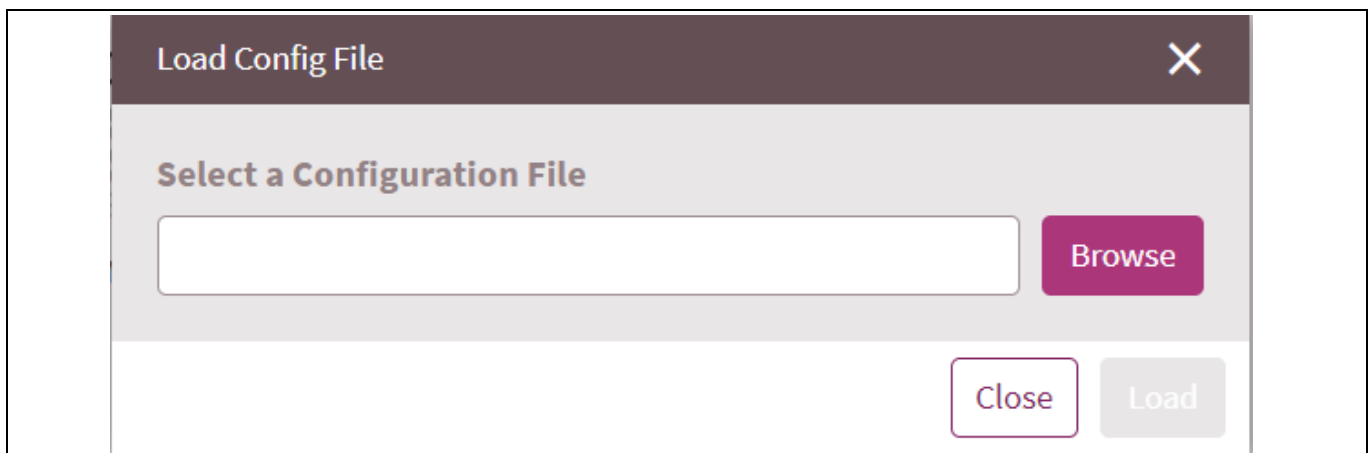

Figure 35 Browse to select the necessary configuration file
- Click **Browse** and select the .txt file that needs to be loaded onto the device, as shown in Figure 35.